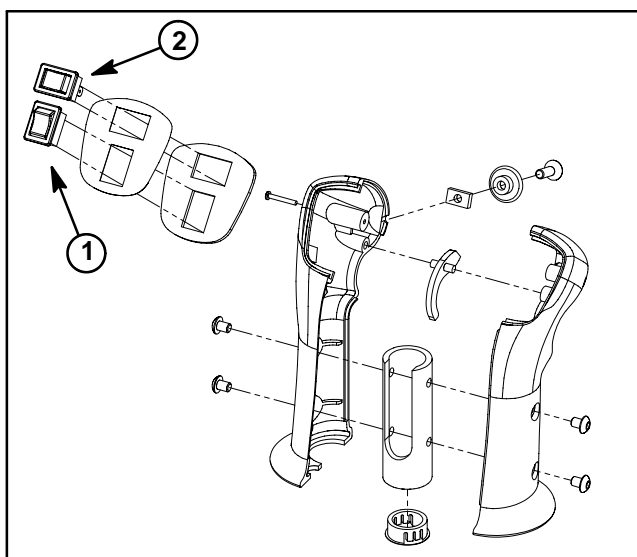
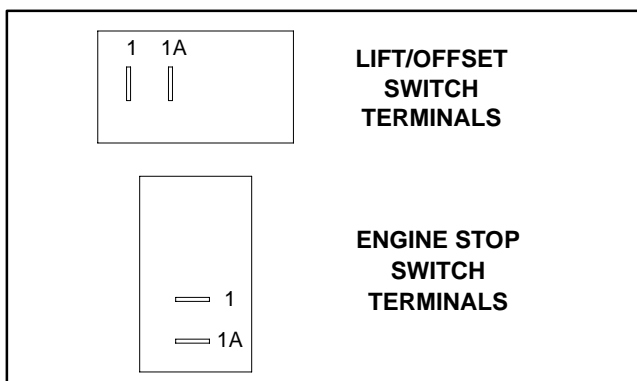

Figure 9
Figure 10
3. If necessary, disassemble remote control handle (Fig. 9) and test switch continuity using information above at switch terminals (Fig. 10). Replace switch(es) if necessary. Assemble remote control handle after switch testing is completed.